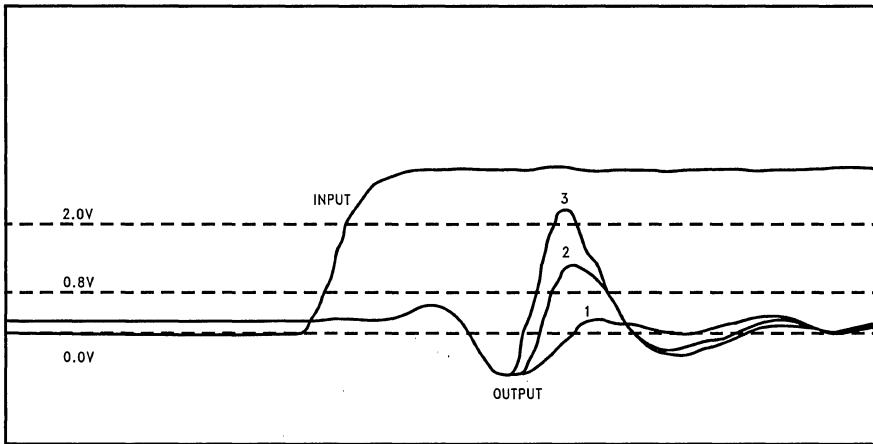

FIGURE 13. V_{ILD} 7 Outputs Switching
1. On a low output, the LOW level will not rise above an input threshold low level of 0.8V after the transition of the output. *Figures 13 and 14.* Numbered output curve deflections are a result of 10 mV incremental changes on the low input signal level.